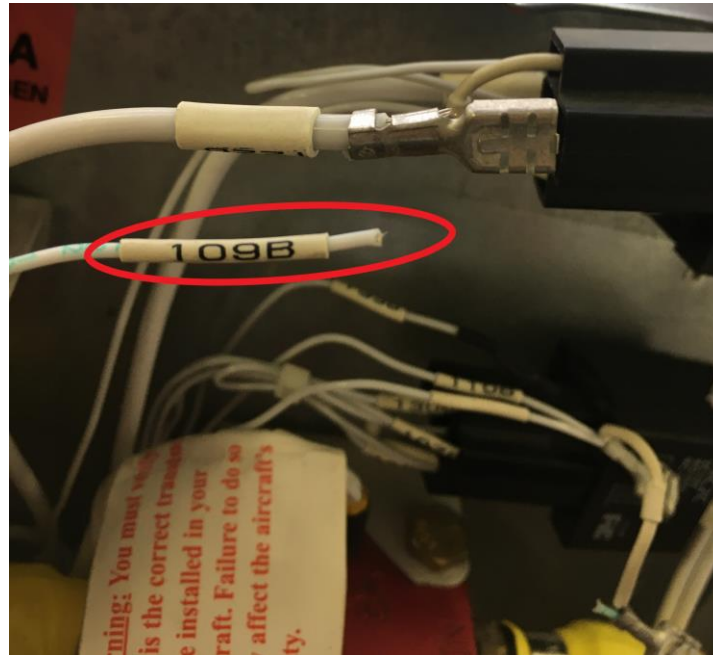

Fig. 23: Wire 109B
21) Cut and remove the wire marked 109B (See Fig. 23)